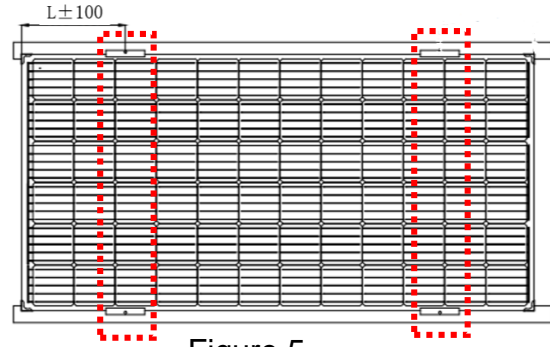

Figure 5
5. The module can be installed vertically or horizontally while the latter is recommended (as shown in figure 5 and 7).